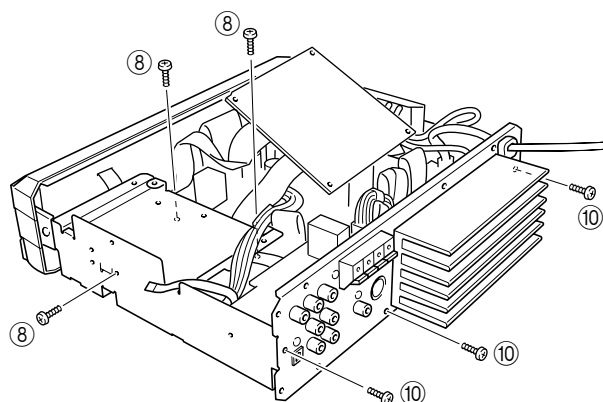
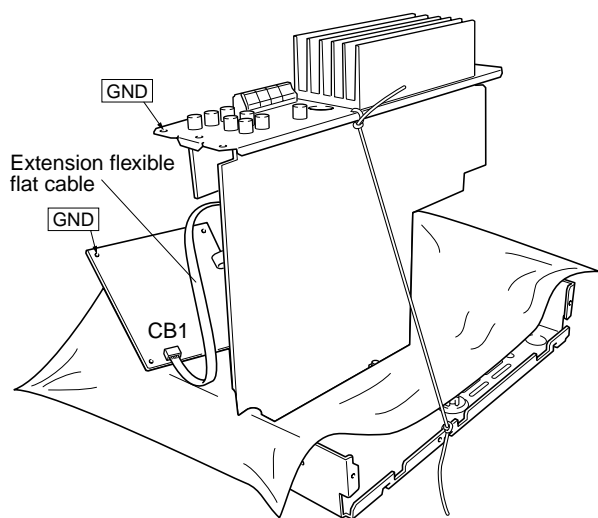

Fig. 5
Fig. 7
- e. Remove 3 screws (⑧). (Fig. 5)
- h. Remove 3 screws (⑩). (Fig. 5)
- i. Remove MAIN P.C.B. (1) from the main chassis.
- j. Disconnect the flexible flat cable (CB305) from MAIN P.C.B. (1).
- k. Connect CB305 of MAIN P.C.B. (1) and CB1 of DIGITAL P.C.B. (1) by using an extension cable (5P:MF105250).
- l. Place MAIN P.C.B. (1) upright with a cloth spread on the main chassis. (Fig. 7)